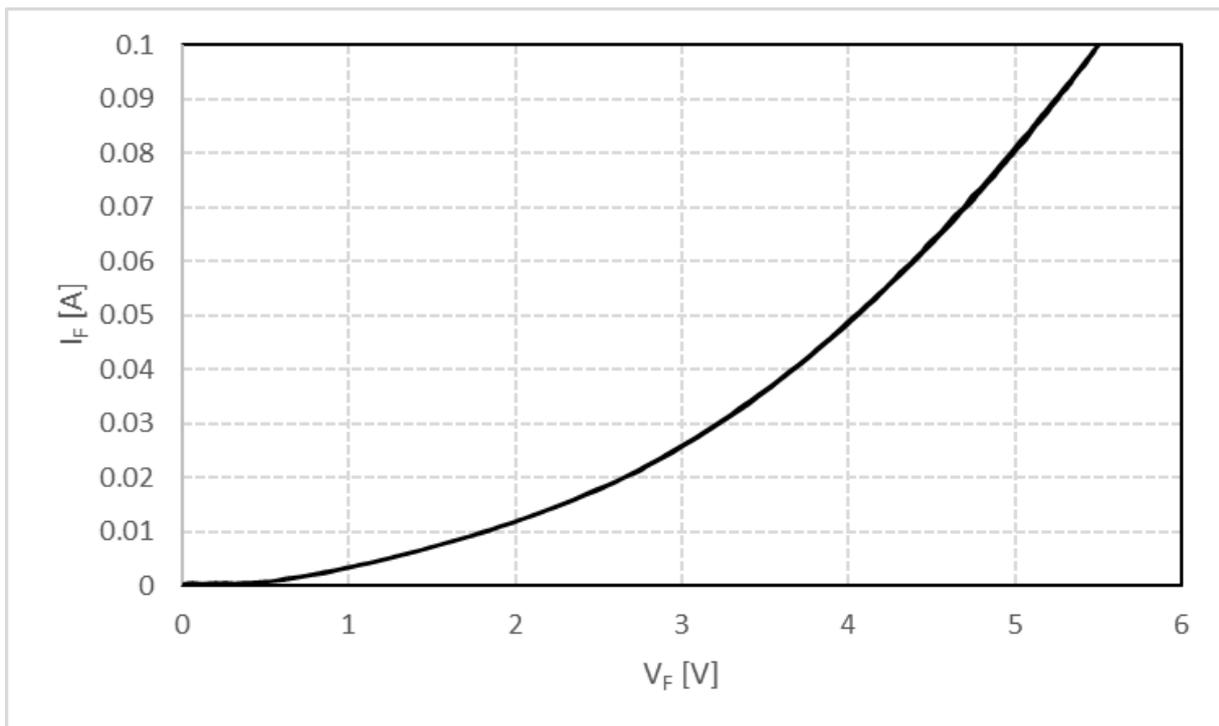

Fig. 5 Internal Bootstrap Diode  $I_F$ - $V_F$  Characteristics
- $T_{LVIC}$  is LVIC temperature and  $V_{OT}$  is only for sensing temperature of LVIC and cannot shutdown IGBTs automatically. The relationship between  $V_{OT}$  voltage output and LVIC temperature is described in Fig. 5. It is recommended to add a ceramic capacitor of 10 nF or more between  $V_{OT}$  and VSS (Signal Ground) to make the  $V_{OT}$  more stable. Refer to the application note for this products about usage of  $V_{OT}$ .